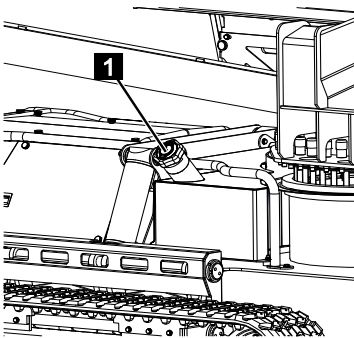

Fig. 167
4. Unlock the fuel cap (Fig.167/1), unscrew it and place it aside in a clean space.